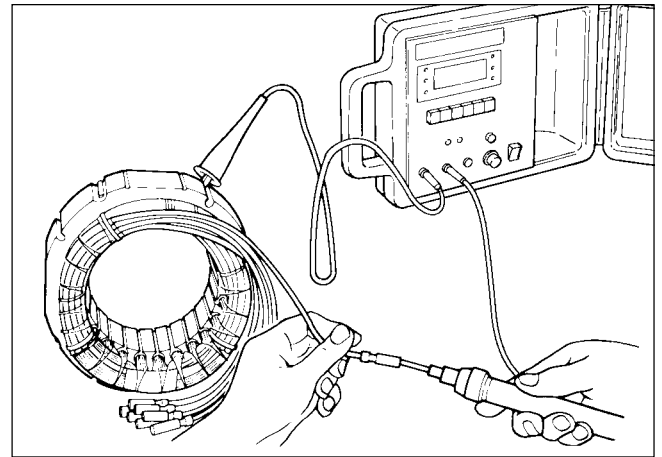

Fig. 2-3
(3) Check the insulation resistance between stator core and each stator lead using a Dr. Robin generator tester in megger tester mode or a megger tester. (Fig. 2-3)